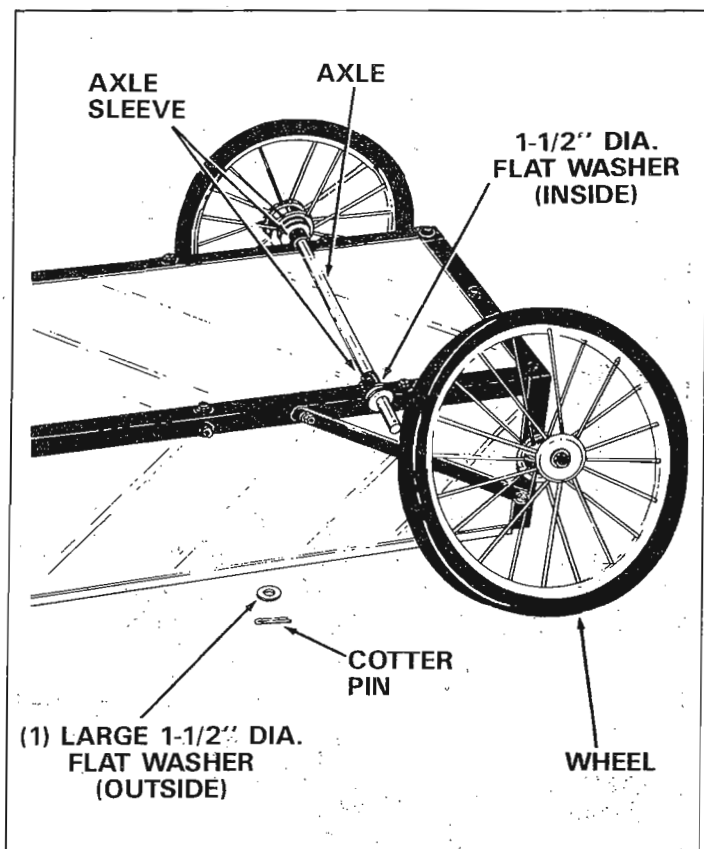

FIGURE 11.
6. Insert axle through axle sleeves as shown in figure 11 on page 6. Tighten all nuts securely.
- Place one 1-1/2" dia. flat washer on axle, then wheel, one more large flat washer and secure with cotter pin. See figure 11 and note below. Repeat step for other wheel.